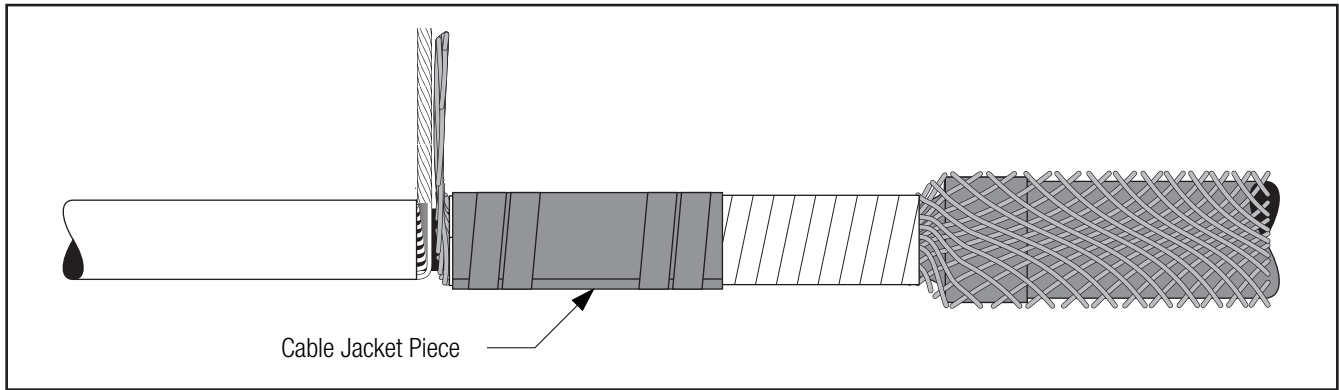

Figure 33
6.5.3 Place a 3-4" piece of cable jacket over the rubber or vinyl tape and cable semi-con as shown below. Secure with vinyl tape (*Figure 33*).